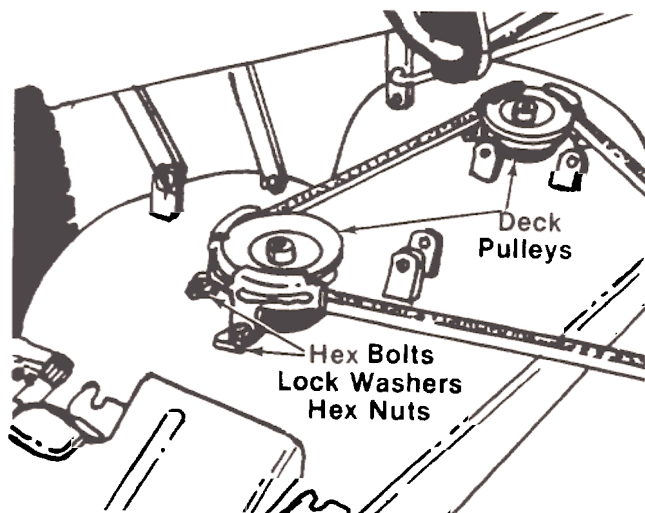

FIGURE 25.
7. Remove the belt guards at each deck pulley by removing the hex bolts, lock washers and hex nuts. See figure 25.